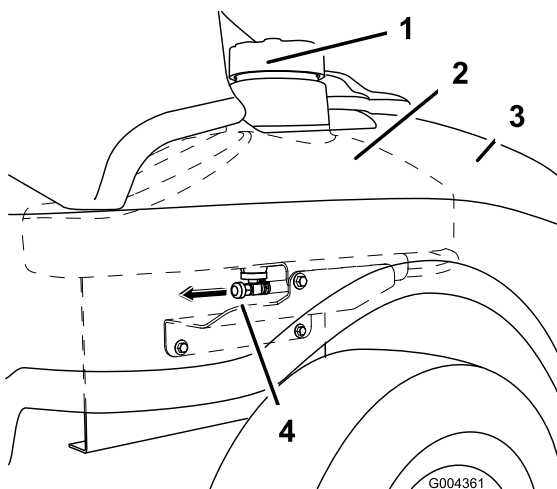

Figure 31
3. Close the fuel shut-off valve located under the front of the fuel tank (Figure 31).